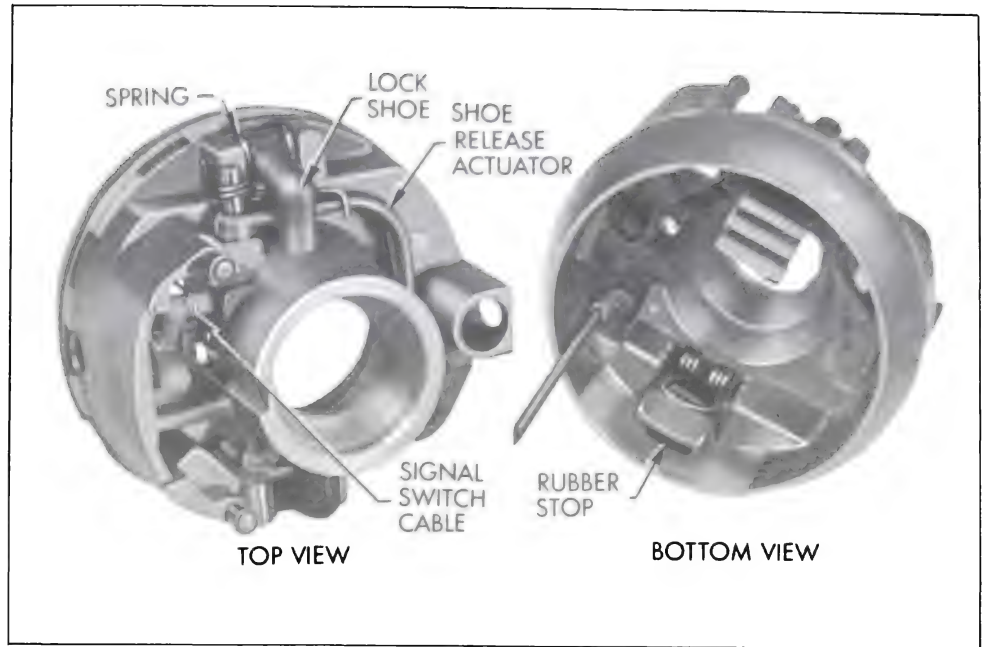

Figure 8-86—Actuator Assembly
4. If lock shoes were removed from actuator, install the springs on the upper end over lock shoes, then install the shoes in the actuator and retain with the pins. See Figure 8-86.